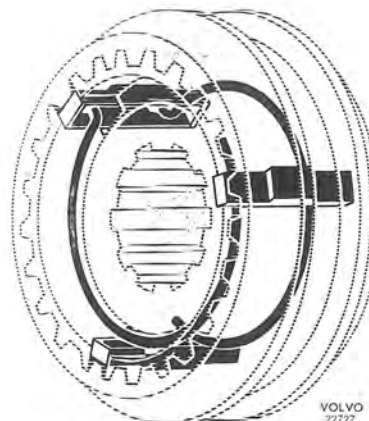
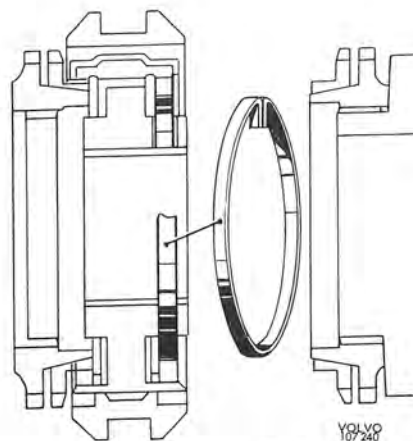

Fig. 4-27. Assembling synchronizing
Fig. 4-28. Fitting resilient ring
1. Assemble 1st-2nd and 3rd-4th speed synchronizers. Fit the snap rings correctly, see Fig. 4-27. Place the resilient ring in the hub for 3rd—4th synchronizers, see Fig. 4-28.